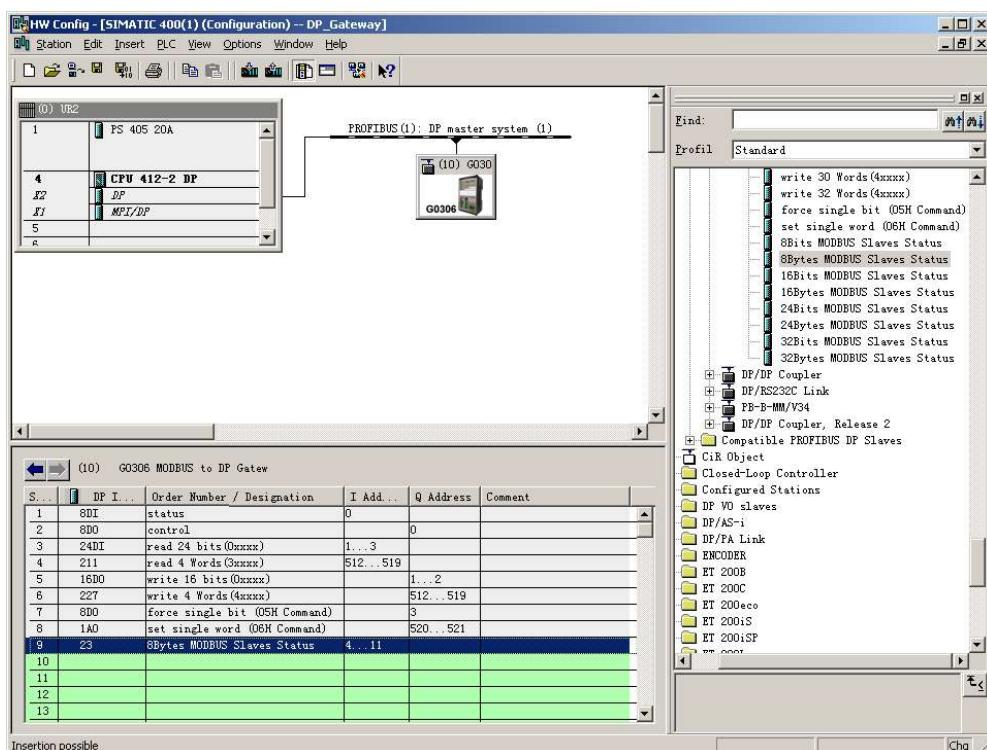

Figure 38 Add“8Bytes MODBUS Slaves Status”module
b) Add “8Bytes MODBUS Slaves Status” module, as shown in Figure 38: